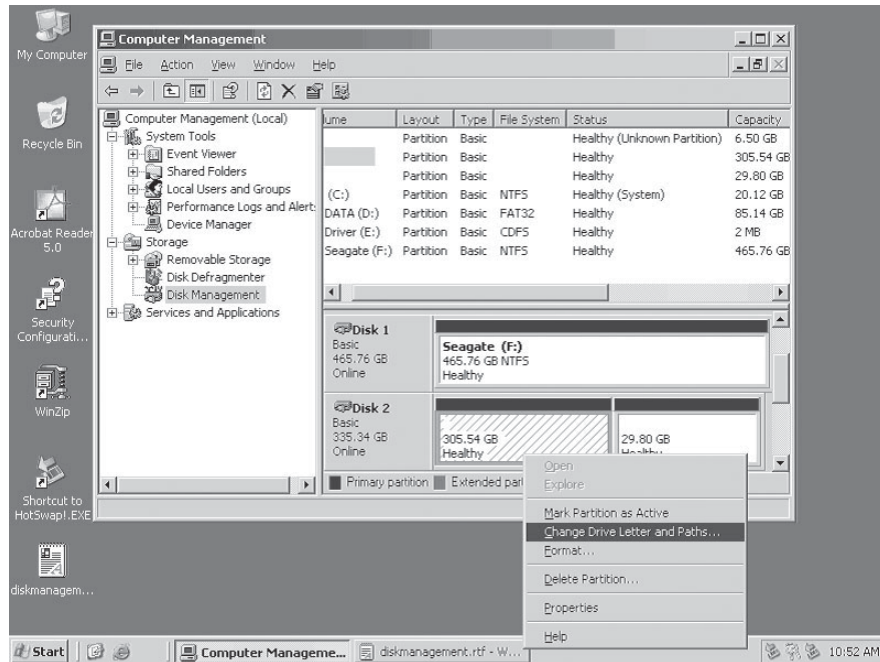

Figure 4
2. Right click on the **Healthy** disk, the disk without a drive letter, then click **Change Drive Letter and Paths**. See **Figure 4**.